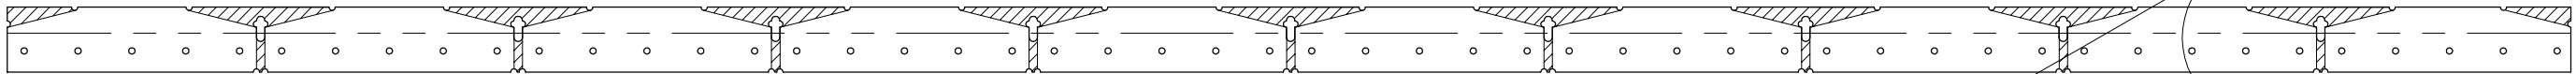

FIGURE 1: CUTTING APART THE STIFFENERS
Step 1: Cut apart the F-1099D Wing Root Fairing Stiffeners as shown in Figure 1. Parts are shown unbent.